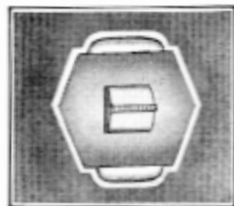

Figure 33
**POWER OPERATED WINDOWS** — The electrically operated hydraulic pump also furnishes power for raising and lowering the door and quarter windows. Each window is operated by a hydraulic cylinder arrangement and may be raised or lowered to any position by its own control button (Figure 33). Buttons located at each window are operated by pressing down to lower and up to raise the windows. Windows can be stopped at any desired height.